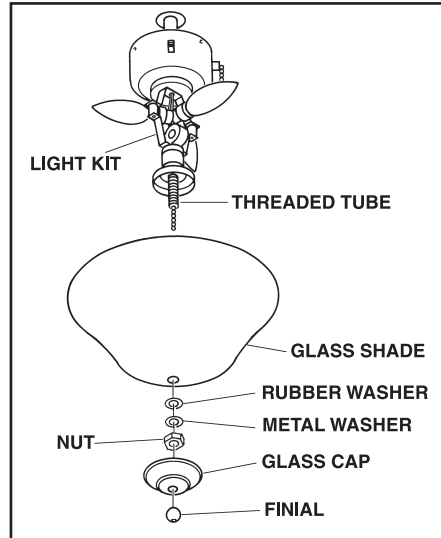

FIG. 21
Step 6. Install the glass shade onto the light kit and secure with the rubber washer, metal washer, knurled nut, glass cap and finial. (Fig. 21).